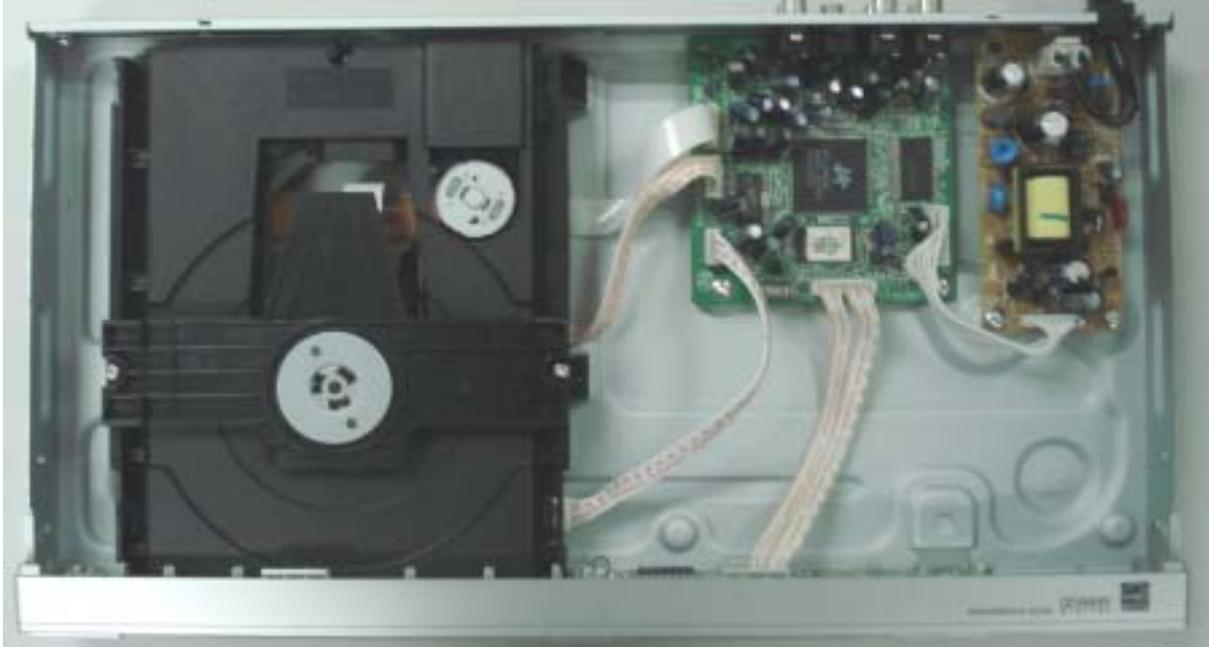

Figure 1
**Step1:** Remove 5 screws around the Top Cover, then remove the Top Cover (Figure 1).